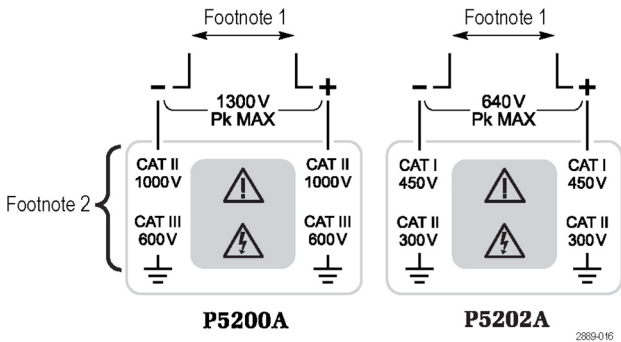

Figure 1: Specification table footnotes referring to the probe input limits on the P5200A and P5202A probes
- ¹ Beyond these limits, the output could be clipped. (See Figure 1 on page 14.)
- ² The Common Mode and input voltage-to-earth ratings are the maximum ratings of each input lead (+/-) to ground. (See Figure 1 on page 14.)